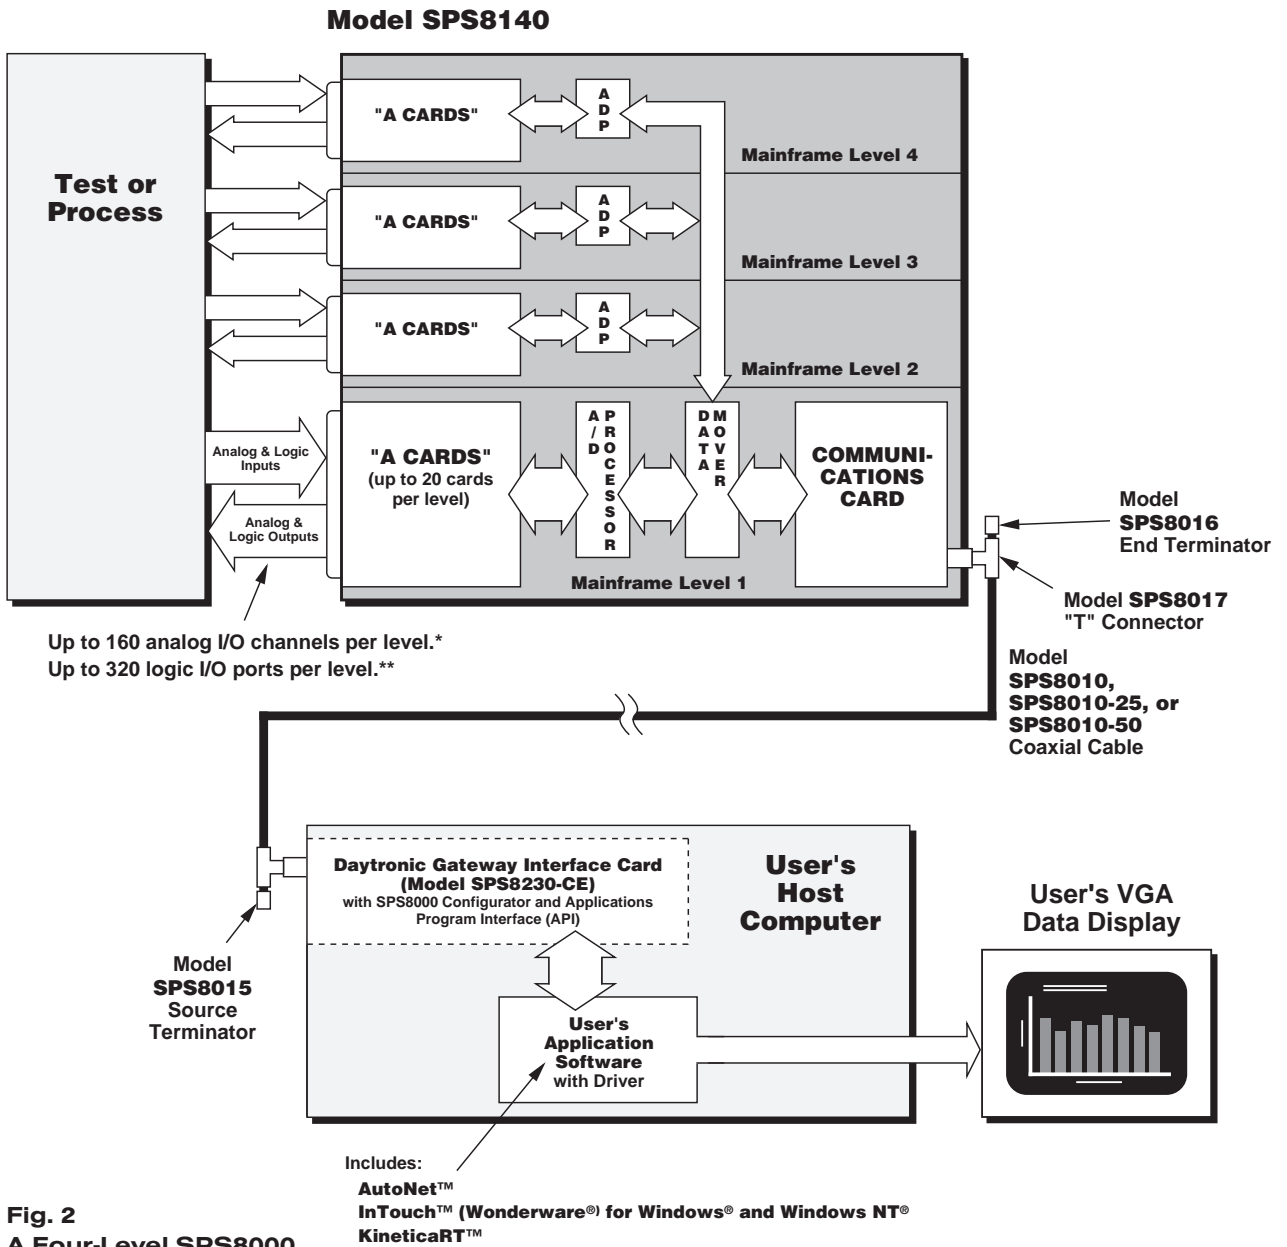

Fig. 2
- a **Power Conditioner Card (PCC)**—not shown in Fig. 2
- the rack’s **Data Mover Card (DM)**